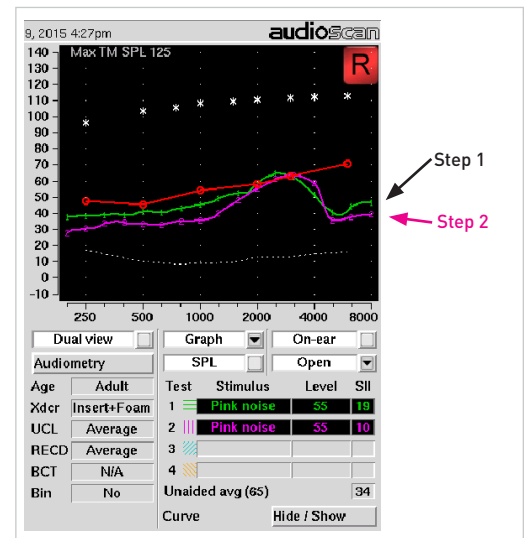

Figure 10
Step 1 illustrates the REAR of the hearing aid fit to the better ear and adjusted to target, or preferred level. Step 2 representing sound incident on the poorer ear side should approximate the levels determined for step 1. [Fig. 10]